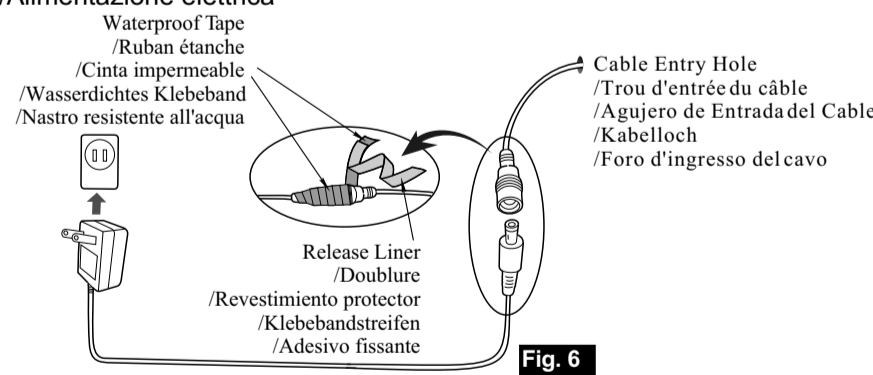

Fig. 6
2. Plug the AC adapter into a wall outlet. See Fig. 6.
2. Overlap by at least half the width of the tape so it bonds to itself, while removing the release liner. See Fig. 6.